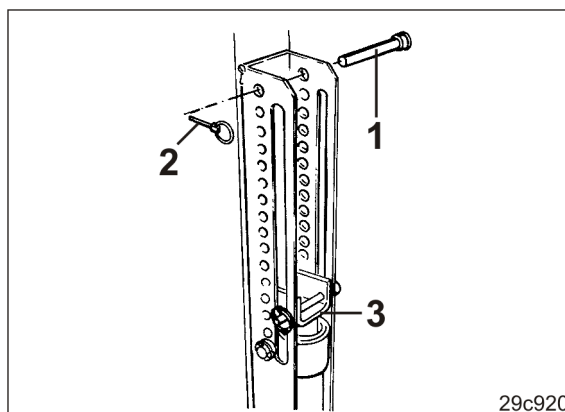

Fig. 177
3. Insert the bolt (Fig. 177/1) above the stop (Fig. 177/3) into a hole in the group of holes and secure it with a linch pin (Fig. 177/2).